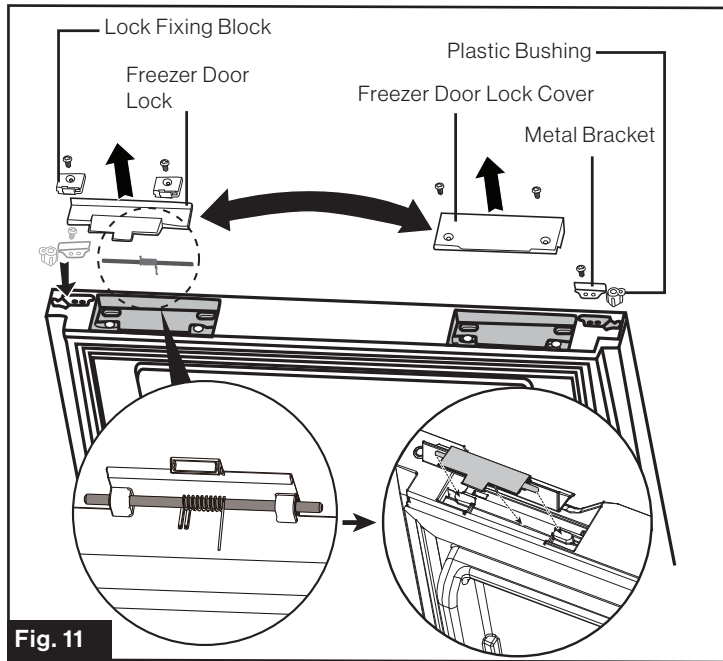

Fig. 11
- Reverse the parts of Freezer Door Lock Cover, Metal Bracket, Plastic Bushing, Freezer Door Lock, Lock Fixing Block to the opposite side respectively. (Fig. 11)